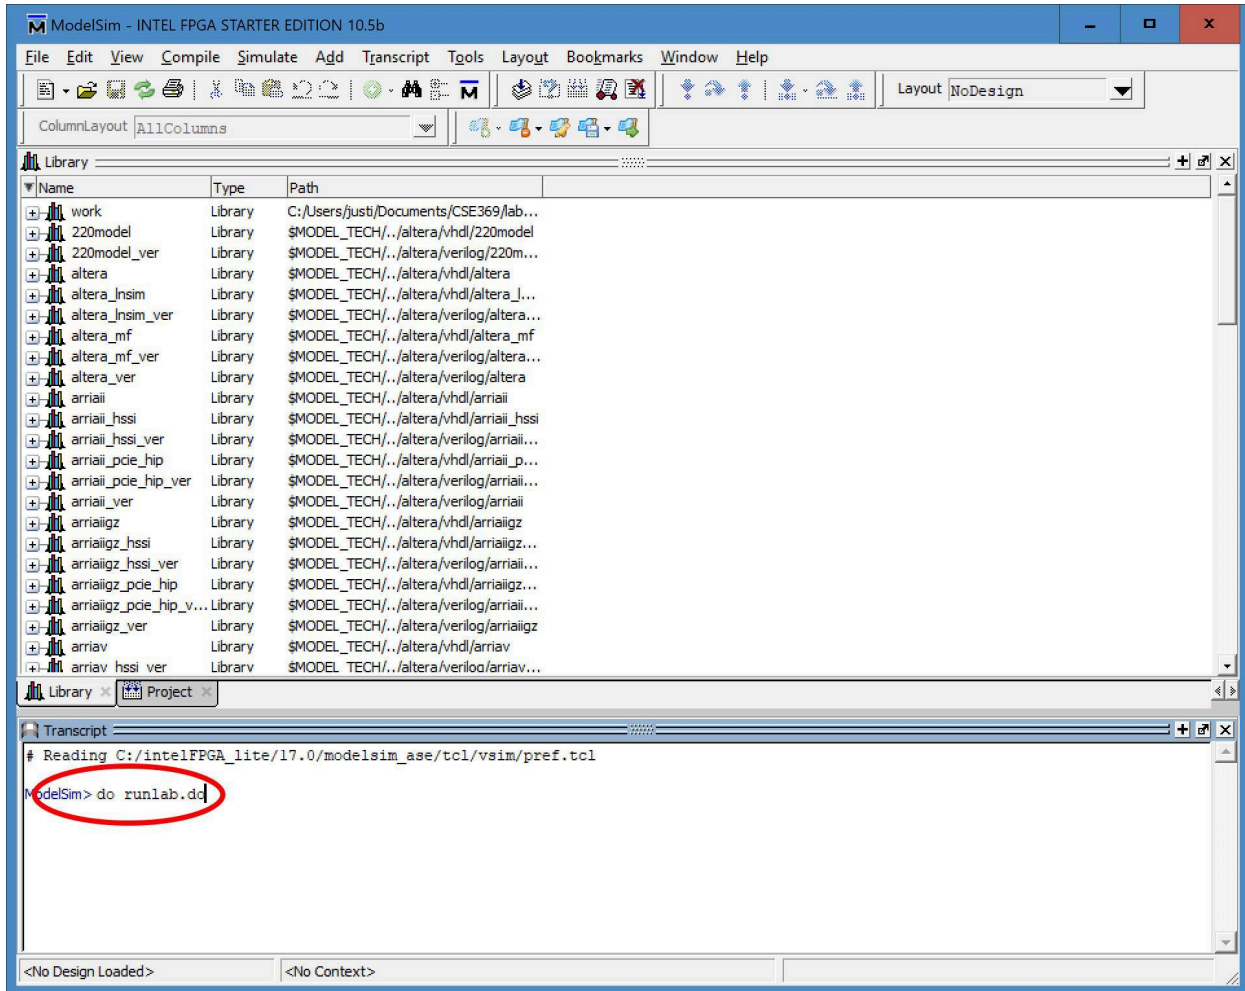

Figure 5: Entered the command "do runlab.do" into the Transcript pane. Press <Enter> to issue the command.
- 2) **Simulate the circuit by issuing the command "do runlab.do" in the Transcript pane.** The Transcript pane can be found at the bottom of the ModelSim window (*Figure 5*). The *runlab.do* file will compile and run the simulation for mux2_1.